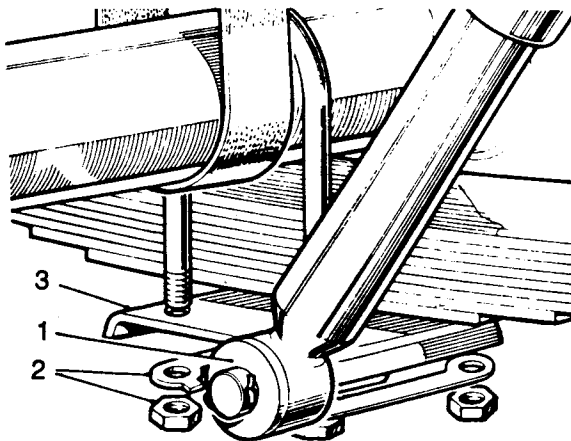

Fig 14.5
- (6) Refer to Fig 14.5. Replace the spring support plate (3) and tighten the fixings (2).
- (7) Set the springs as in Sub-section I3, Chapter 2.
- (8) Reconnect the shock absorber (1) lower fixings.
- (9) Refit the road wheel.
- (10) Remove the stand and lower the vehicle to the ground.
- (11) Check vehicle trim height (see Sub-section I3, Chapter 1).